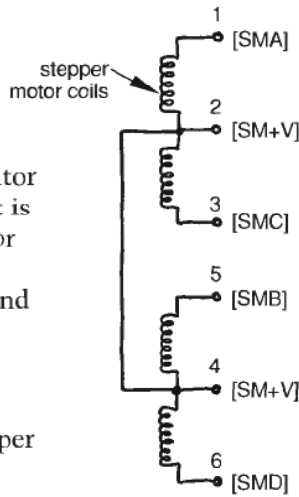

Figure 4.5
- Using the number labeling derived above, follow Figure 4.5 and attach the two common wires labeled 2 and 4, to the barrier terminal strip at stepper motor common [SM+V] on the stepper motor driver board. Attach wire 1 to stepper motor A [SMA] and wire 3 to stepper motor C [SMC]. Attach wire 5 to stepper motor B [SMB] and wire 6 to stepper motor D [SMD].